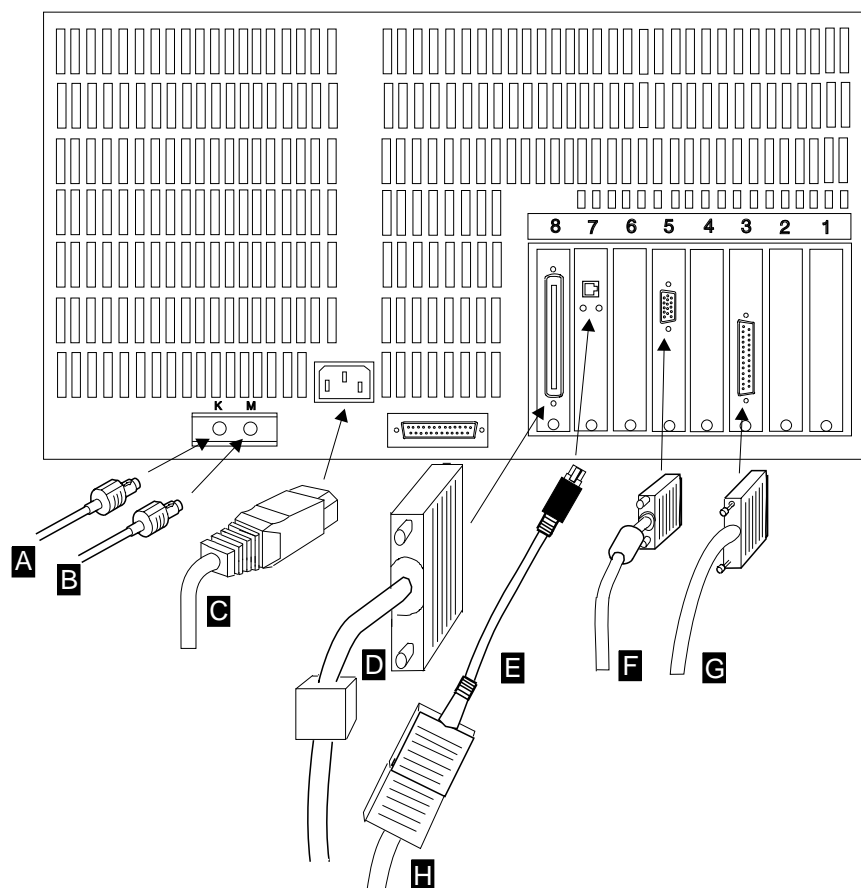

Figure 1-40. Cable Locations
19. ____ **Connect** the cables to the 3172 as follows (see Figure 1-40 on page 1-37):